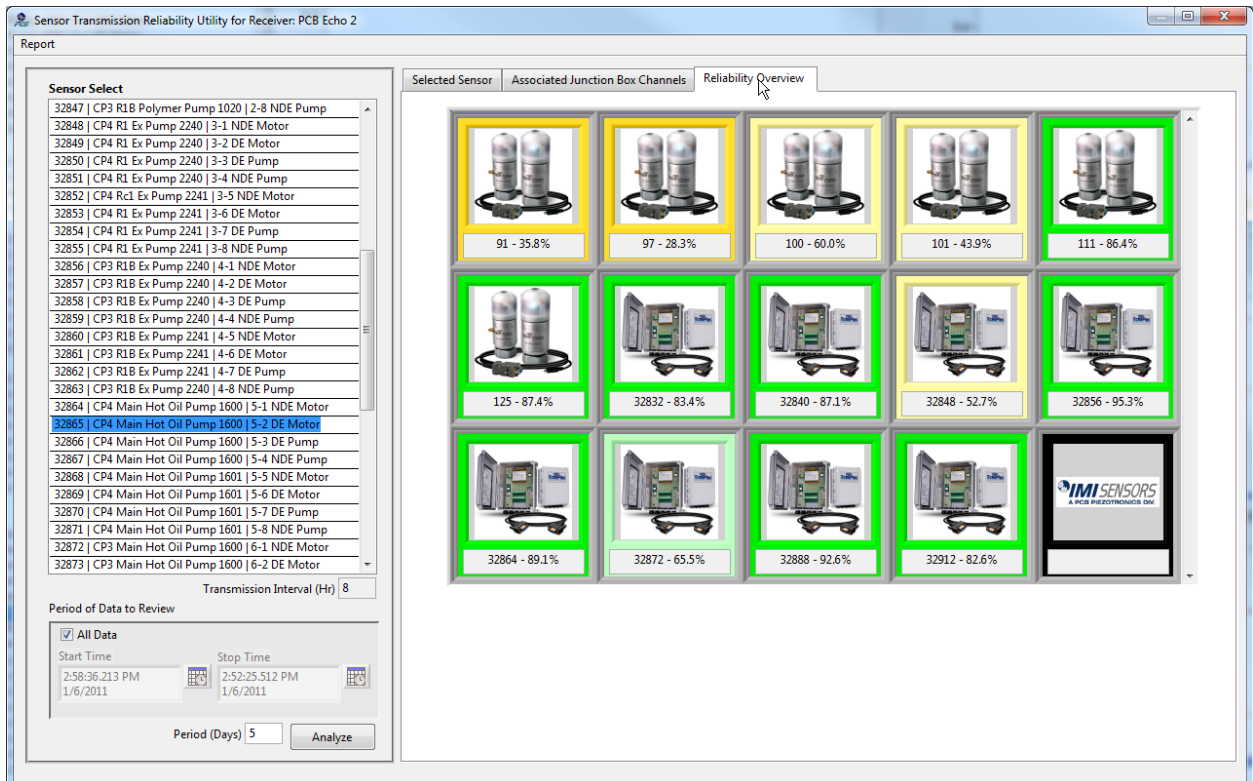

Figure 89 – Echo® Sensor Transmission Reliability Utility – Reliability Overview Tab
- **Reliability Overview tab** (Figure 89) – This tab shows the overall reliability of every device assigned to the selected receiver. Each entry is an icon of either a junction box or a standalone sensor. Below each icon is a transmission reliability statistic for the time period analyzed. The number associated with each statistic is the sensor ID for that sensor. For junction boxes the 1st channel of the box is used. The color of the icon represents the reception quality at a glance in 20% steps. Bright green=>80%; Light Green=60-80%; Light Yellow=40-60%; Dark Yellow=20-40%; Red=<20%